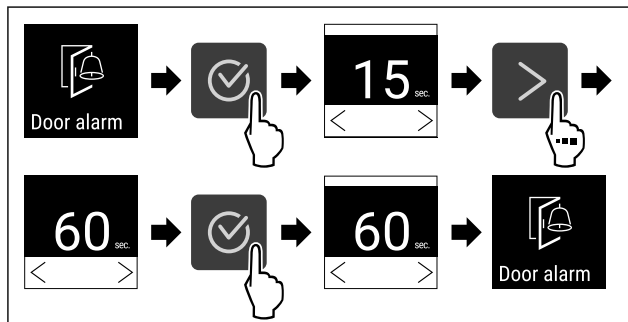

Fig. 96
- ▶ Complete steps (see Fig. 96) .